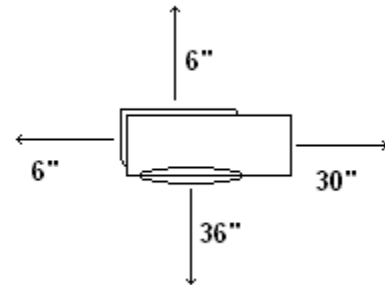

Figure 3. Air-Cooled Condenser Minimum Clearances Plan View
- Provide adequate clearance to allow for airflow and service access around the air-cooled condensing unit as shown in Figure 3.